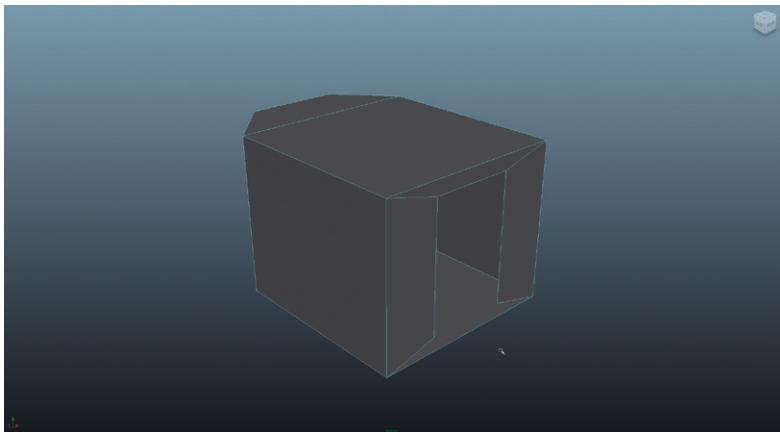

FIG 3.23 Deleted faces. Leaving the polygons we are interested in.
Step 37: Delete the face. Hit Delete or Backspace on the keyboard to get rid of this polygon and the one below it (Fig. 3.23).